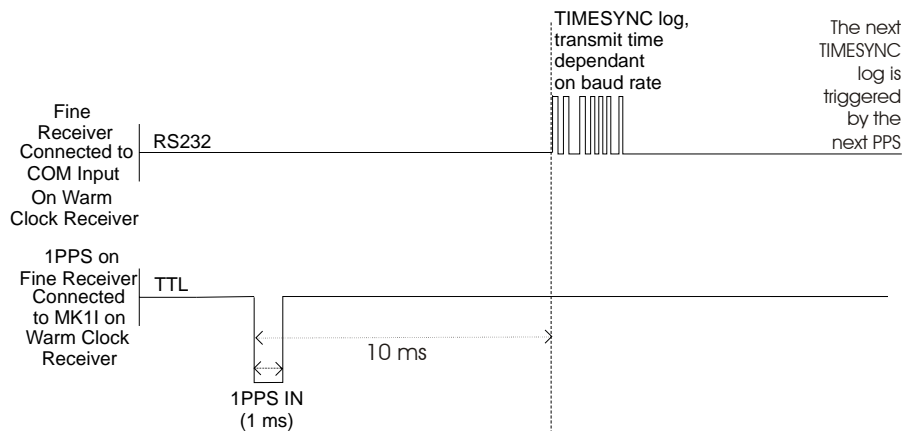

Figure 1: 1PPS Alignment
Figure 1 shows the 1PPS alignment between a Fine and a Cold Clock receiver. See also the `TIMESYNC` log on *Page 310* and the *Transfer Time Between Receivers* section in *Volume 1* of this manual set.
- b. It is presumed that the TIMESYNC log, see *Page 310*, was issued by a Master GPS receiver within 1000 ms, but not less than 800 ms, of the last 1PPS event, see *Figure 1, 1PPS Alignment on Page 42*. Refer also to the *Transfer Time Between Receivers* section in *Volume 1* of this manual set.